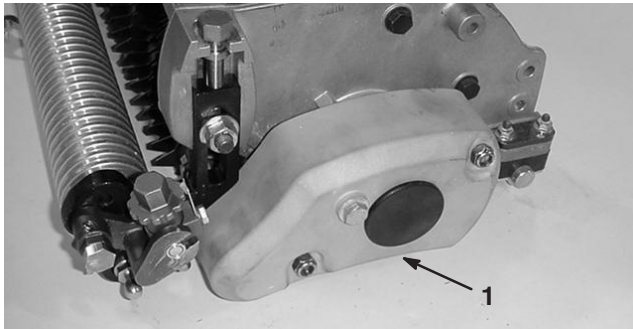

Figure 28
1. Remove belt cover from groomer housing (Fig. 28).